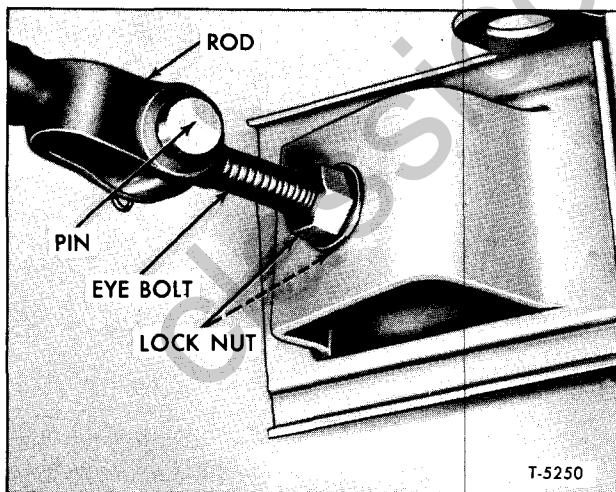

Figure 4—Radiator Shell Strut Rods
5. On models except HM and JM 80, remove upper lock nuts, washers, and cushions from radiator stabilizer rods. Refer to RADIATOR AND SURGE TANK (SEC. 13) (fig. 4) of this manual.
NOTE: If collision repairs were made to front end of vehicle, it may be necessary to realign the shell and hood panels, using means of threaded yoke on radiator shell support strut rods (fig. 4). By shortening or lengthening rods, top of radiator core and shell can be tilted fore and aft to obtain proper hood alignment.